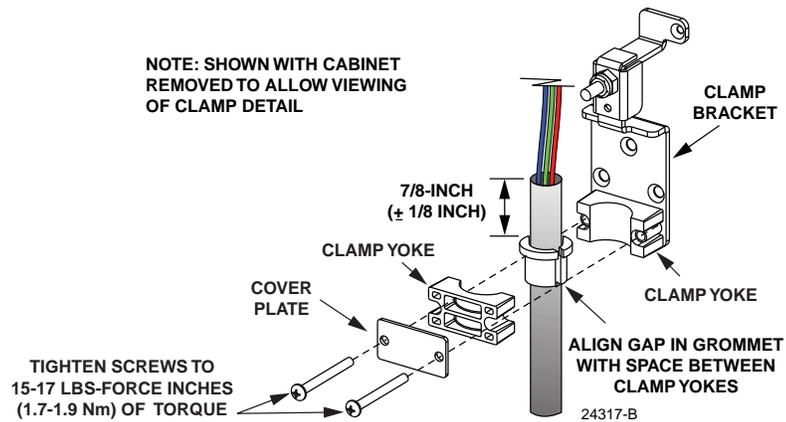

Figure 27. Distribution Cable Clamp Installation
10. Adjust cable to remove any excess slack from the cabinet interior and then loosely assemble the cable clamp and grommet on the cable as shown in Figure 27. Leave 7/8-inches (\pm 1/8-inch) of the cable sheath showing above the grommet.